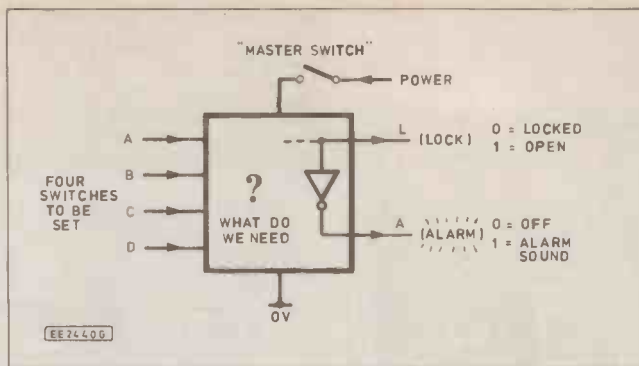

Fig.4.12 Electronic lock - first stage. We know that A (alarm) will always be the inverse of L.
**T** Well, that's easy. We can start drawing our diagram (Fig.4.12). It's just a box, with the necessary four inputs and two outputs. But we can now add the inverter between L and A.